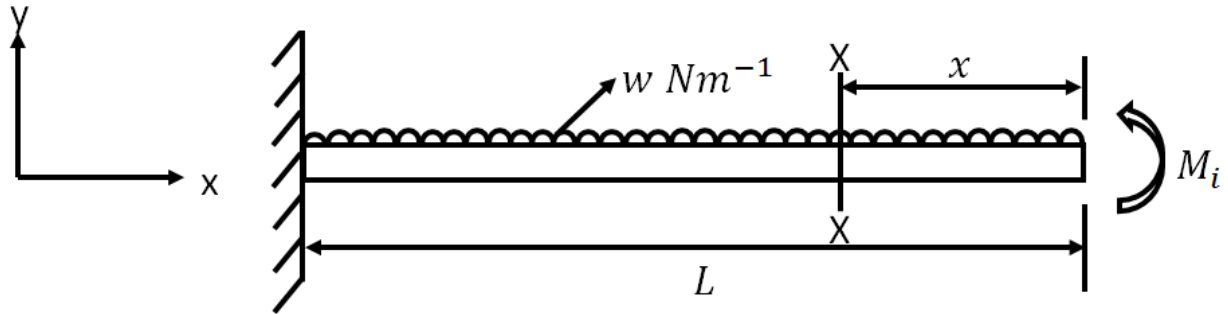

Fig. Q 5 (b)
- a) Derive the equation for the slope at the free end of a cantilever carrying a uniformly distributed load over its full length as shown in Fig. Q 5 (b) using Castigliano's theorem. (5 marks)